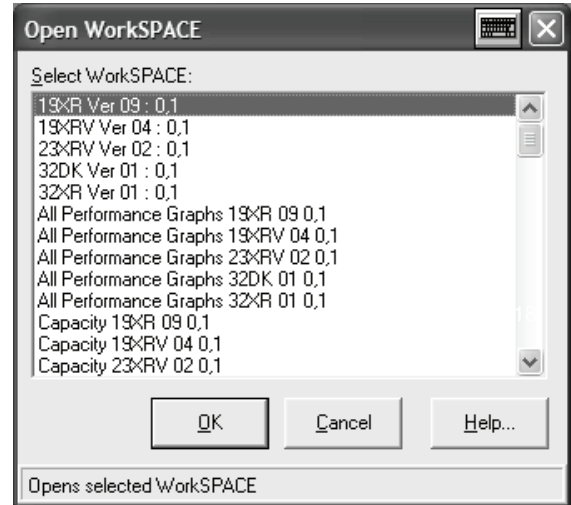

Fig. 27 — Select Workspace
36. Select the filename of the workspace to display and press “OK” (Fig. 27).